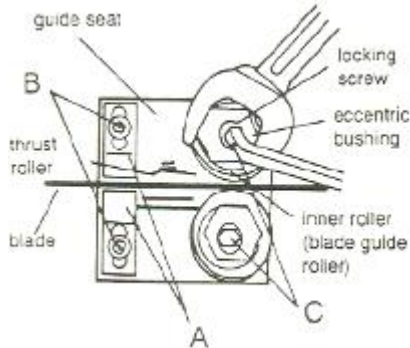

Fig 8
Loosen blade guides (A, Fig 8) by loosening screws (B). Slide blade guides away from the blade. (SX-821DA only).